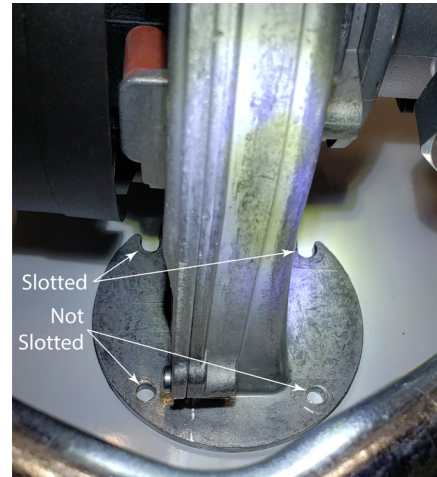

Fig. 4: Blower Bolt Holes
- The two hard to reach bolt holes under the blower housing are slotted, see Fig. 4. Fully remove the two other 8mm bolts securing the blower to the burner mounting plate. Unscrew the other two bolts only as much as is needed to remove the blower/venturi assembly.